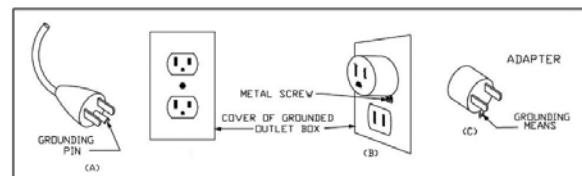

Figure 65.1
- This heater is for use on 120 volts. The cord has a plug as shown at A in Figure 65.1. An adapter as shown at C is available for connecting three-blade grounding-type plugs to two-slot receptacles. The green grounding lug extending from the adapter must be connected to a permanent ground, such as a properly grounded outlet box. The adapter should not be used if a three-slot grounded receptacle is available.